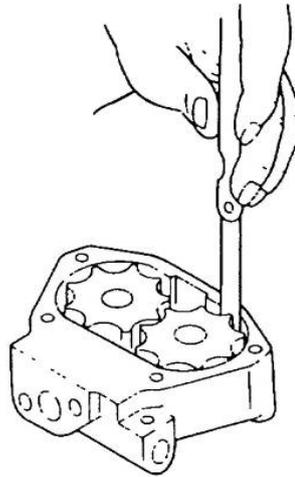

Figure 41 Checking the Gear to Cover Clearance
- Using a feeler gauge check the clearance between the gears and the cover housing (Figure 41). The clearance should be 0.20 to 0.30 mm (0.008 to 0.012 in). If the clearance is outside this limit, replace the oil pump.